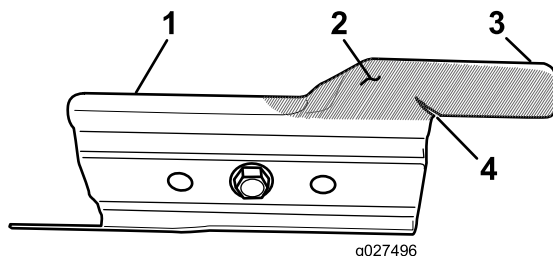

Figure 29
Carefully examine the accelerator for excessive wear (Figure 29). Because sand and abrasive material can wear away the metal (especially in the area shown as item 2 in Figure 29), check the accelerator before using the machine. If you notice that a tab on the accelerator has been worn down to a sharp edge or there is a crack, replace the accelerator; refer to Removing the Blade (page 22).